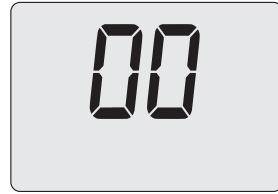

Fig. 8.12
- Press 14 (Fig. 8.9) to show the value of parameter P07 on the LCD display (Fig. 8.12).